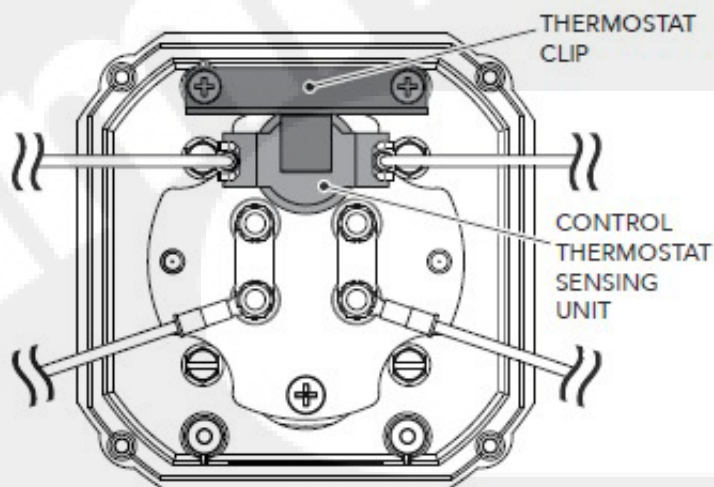

Figure 7-44 GenSet coolant heater thermostat sensing unit
6. As shown in Figure 7-44, loosen the thermostat clip.